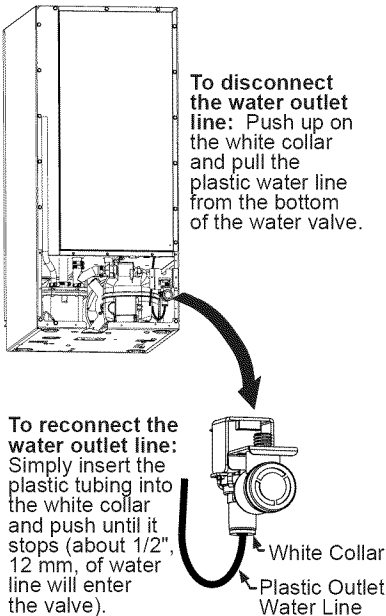

Figure 4
- Disconnect the water valve's outlet water line to the reservoir and drain the remaining water left in the water line trap area (Figure 4).
- Reconnect the water valve outlet water line (Figure 4).